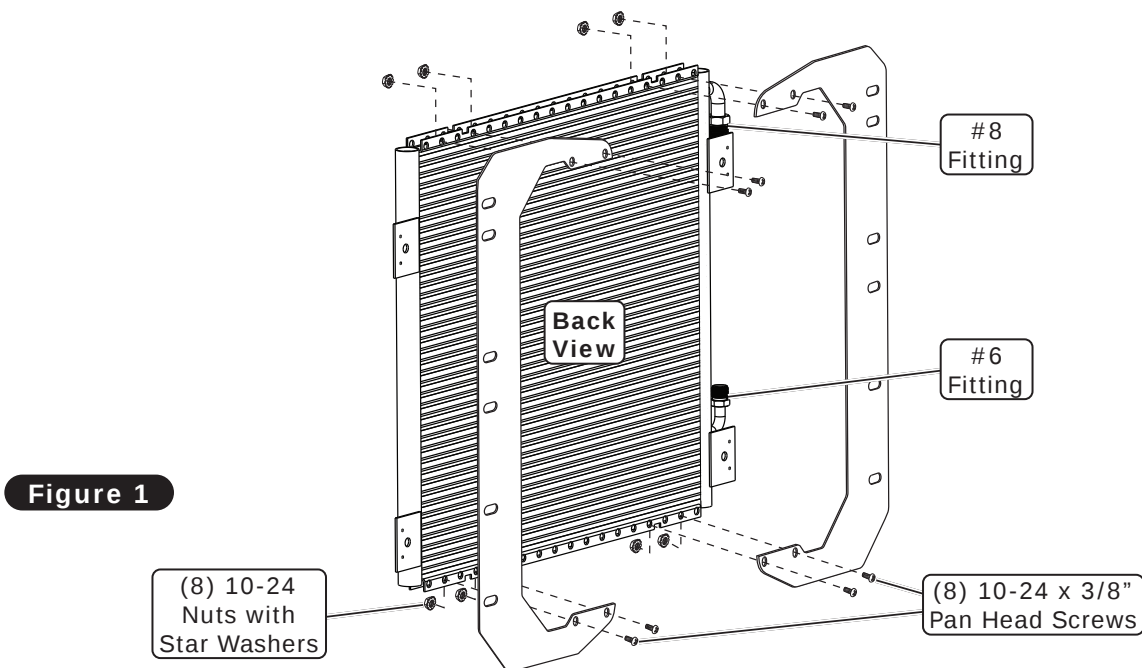

Figure 1
1. Install the condenser mounting brackets onto the back of the condenser using (8) 10-24 x 3/8" pan head screws and (8) 10-24 nuts with star washers (See Figure 1, below). **NOTE: The brackets mount through the 2nd & 4th holes on the condenser.**